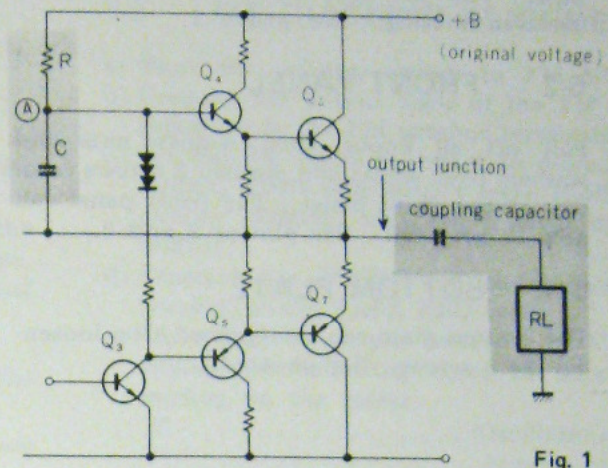

Fig. 1
A common drawback of conventional SEPP amplifier circuits is the occurrence of pulse noise when the power is turned on. The cause of this noise is the timing of the DC voltage distribution through the junctions in the circuit. The most important junction in this respect is the inner side of the output coupling capacitor. Fig. 1 shows a simplified, typical SEPP output stage. When the power is turned on, the original +B voltage surges immediately, and this voltage simultaneously appears, through R, as point (A). The time constant of this C/R network cannot be made as large as desired because it is part of the signal path. Therefore, voltage +B appears almost instantly at the base of Q4, causing a sudden output coupling capacitor to the speaker. The common drawback just described about conventional SEPP amplifier circuits causes the starting pulse noise.